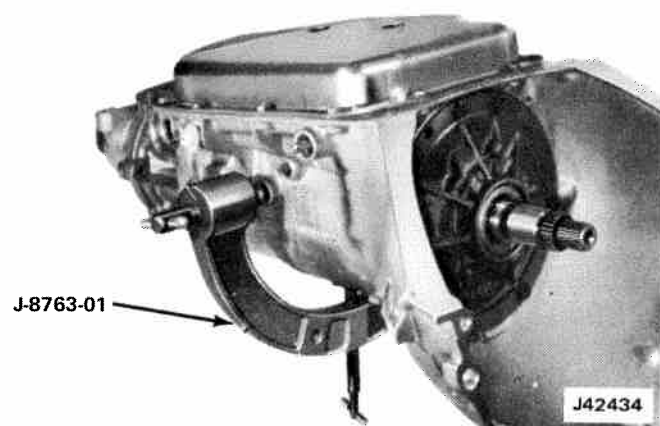

Fig. 7-4 Transmission in Holding Fixture J-8763-01
- (2) Install fixture and transmission into Holding Tool Base J-3289-20 with bottom pan of transmission case facing upward, as shown in figure 7-4.